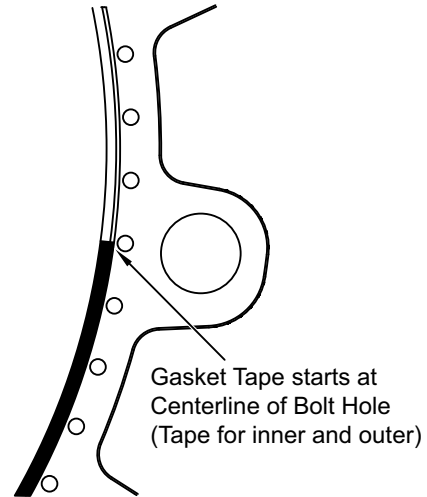
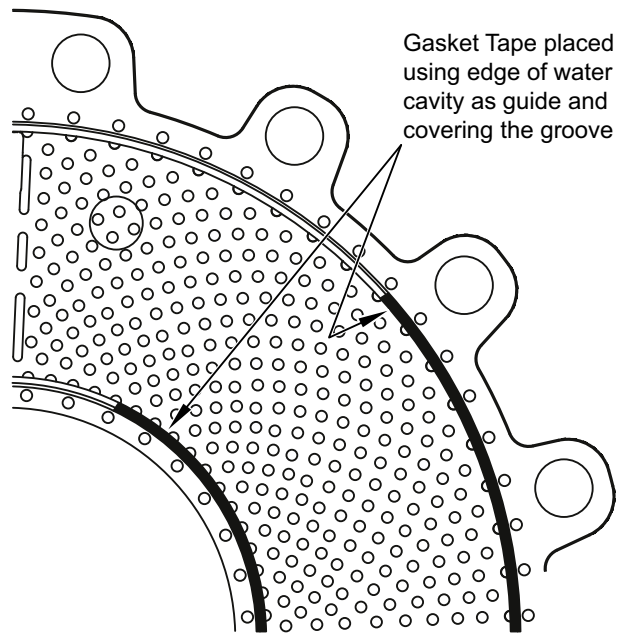

Figure 11 : Start location of gasket tape
Figure 12 : Placement of gasket tape
a) Start with the sealing area nearest to the inner diameter on the IRON. Remove the adhesive backing on the gasket tape a little at a time to prevent the adhesive from picking up dirt during installation. Start by positioning one end of the tape and at the centerline of a bolt hole as shown in **Figure 11**, using the edge of the water cavity as a guide, as shown in **Figure 12**. Proceed to apply the tape on the sealing surface following a smooth circular path, being sure to press the tape in place. Note that the tape will cover the machined groove that is located between the water cavity and bolt holes.